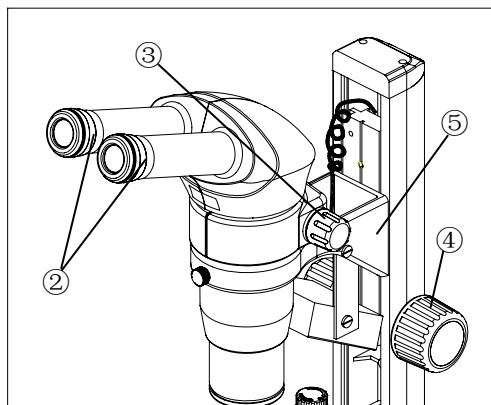
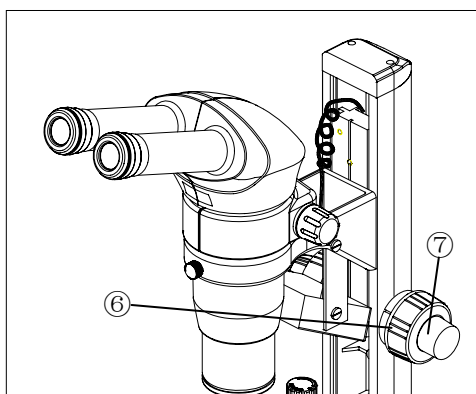

Fig.11
Fig.12
3.1.2 Adjusting diopter ring (Fig.11、 Fig.12)
Fig.11 shows the focusing part of Stereo Microscope STM-3060A、 STM-3060B;
Fig.12 shows the focusing part of Stereo Microscope STM -3060 C. There are coarse knob ⑥ and fine focusing knob ⑦ in this kind of microscope.
When $2\times$ objective is chosen , it is necessary to mount the binocular head bracket ⑤ onto the lower position. Remove the clamping bolt with provided hexagonal driver and move the bracket down to the lower position and set it with original bolt (Fig.11).